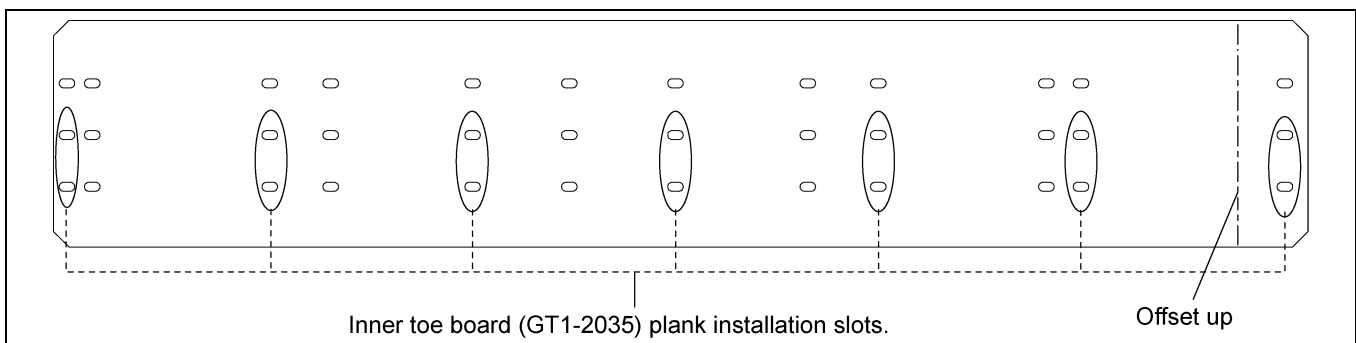

Figure 4K 12' Inner Toe Board (GT1-2035)
3. Inner toe board (GT1-2035) is arranged with many slots to install plank. Install planks to corresponding slots as shown in Figure 4K.